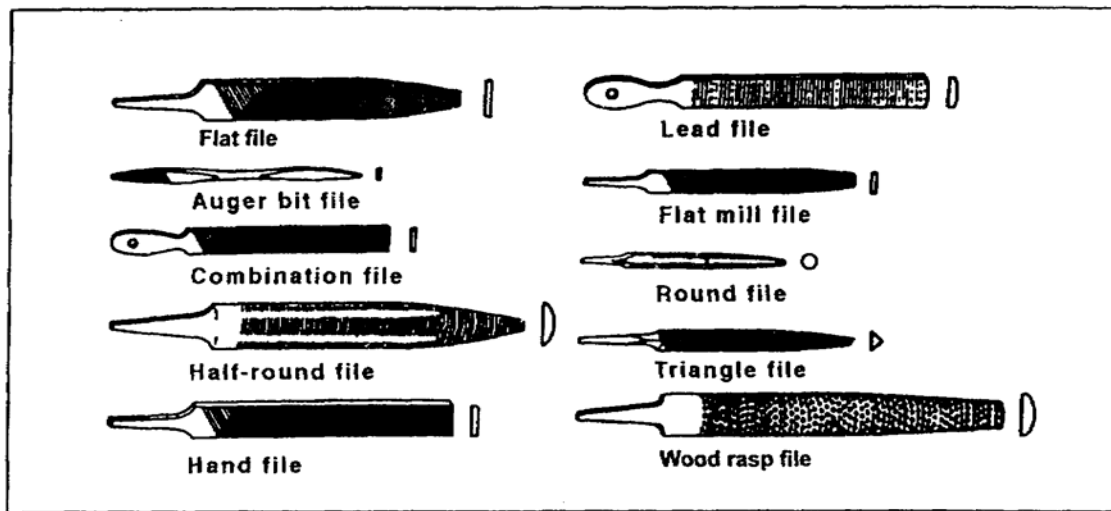

Figure 3-9. Files
f. Files. Files are steel tools used for cutting and smoothing metal and wood. A wood rasp is a course file that differs from the ordinary file in teeth shape and size. There are over 3,000 types and kinds of files and rasps. The most common types are shown in Figure 3-9. Clean files with a file card, which is a wood handle with a brush on one side and fine-wire teeth on the other. Preserve the sharpness of files and rasps by storing them in a rack. If you need to carry files in a toolbox, wrap them individually in cloth or paper to protect their teeth. To prevent rusting, keep files dry and do not use rust-preventive compound on them. Files are very brittle, so do not hammer files or use them as pry bars.